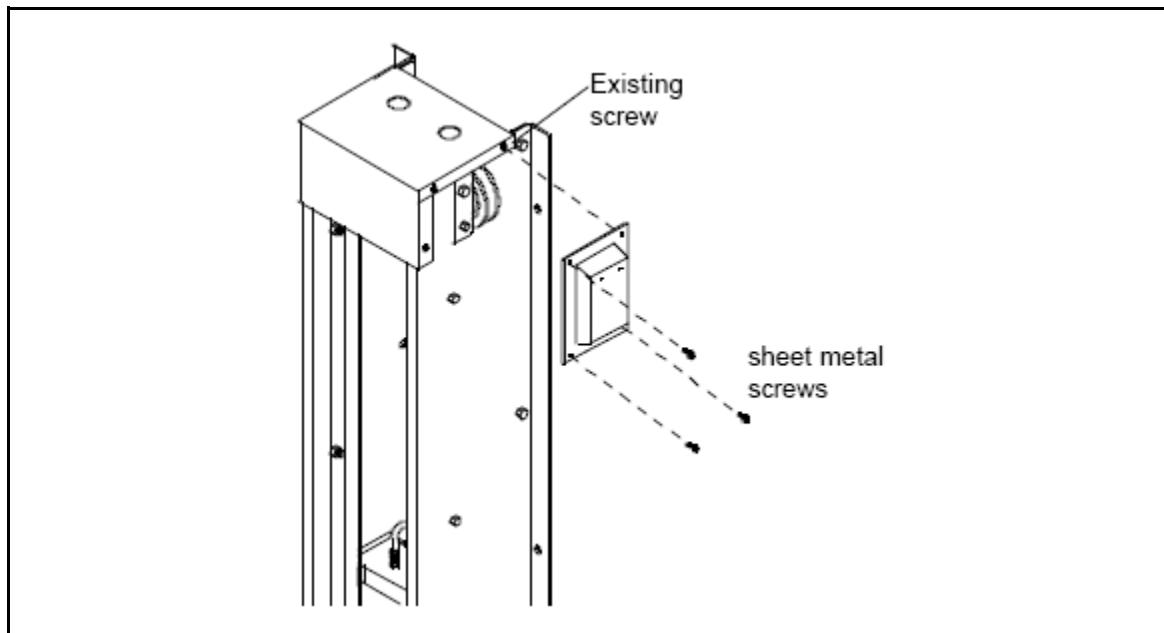

Figure : 5B
Step 4: Remove existing sheet metal screw. (See *Figure 5B* for pulley cover fastening)